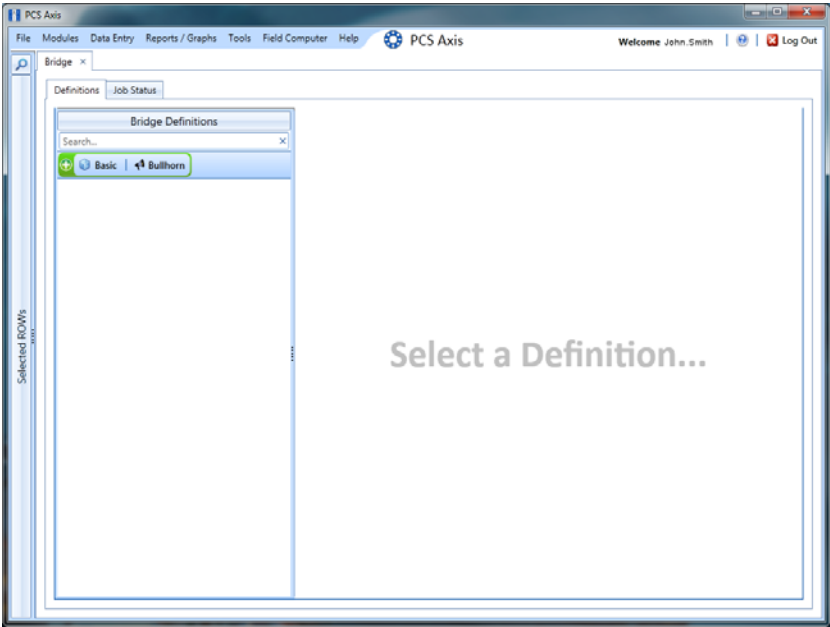

Figure 9-13. Bridge
- 2 Click **Tools** > **Bridge** to open the *Bridge* window (Figure 9-13, page 400)